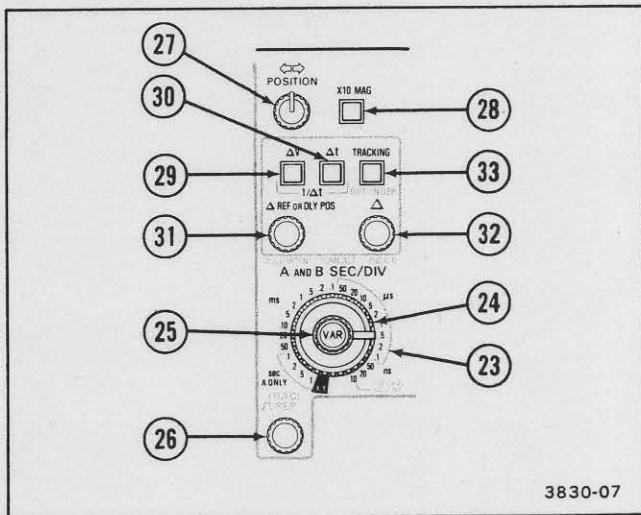

Figure 3-4. Horizontal and delta measurement controls.
Refer to Figure 3-4 for items 23 through 33.
**(23) A SEC/DIV Switch**—Selects 25 calibrated A Sweep speeds from 1 s per division to 10 ns per division, or delay ranges from 10 s to 200 ns, in a 1-2-5 sequence. Extreme counterclockwise switch rotation selects the X-Y display mode. In X-Y, the signal applied to the CH 1 OR X input connector drives the horizontal deflection system.
**(24) B SEC/DIV Switch**—Selects 21 calibrated B Sweep speeds from 50 ms per division to 10 ns per division in a 1-2-5 sequence. This switch also controls Horizontal Display Mode switching, as explained in the following descriptions.